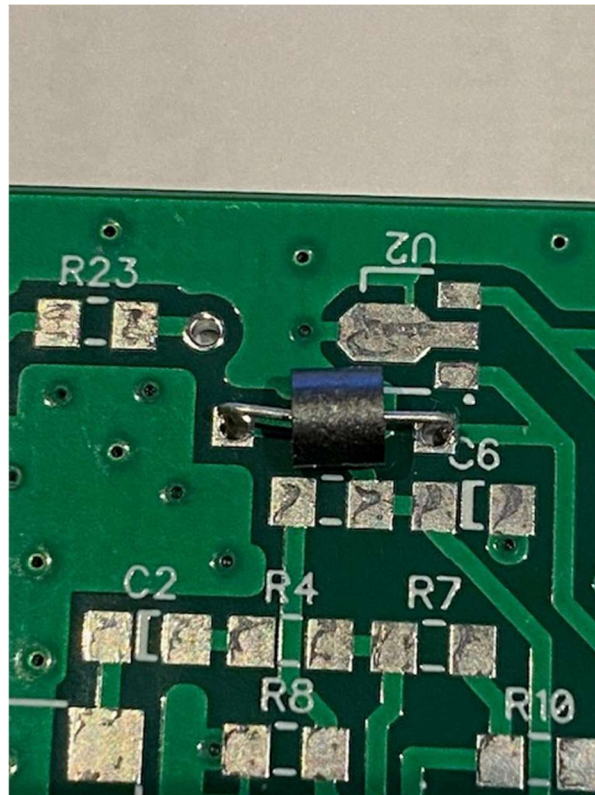

Figure 6. Placement Of L1 – FT43-101 Bead.
6. Install L1 on the board; L1 is formed from placing the FT43-101 bead onto a lead cut off from a ¼ or ½ watt leaded resistor. The spot is not marked so use the photo below for placement. See Figure 6 for the proper location.